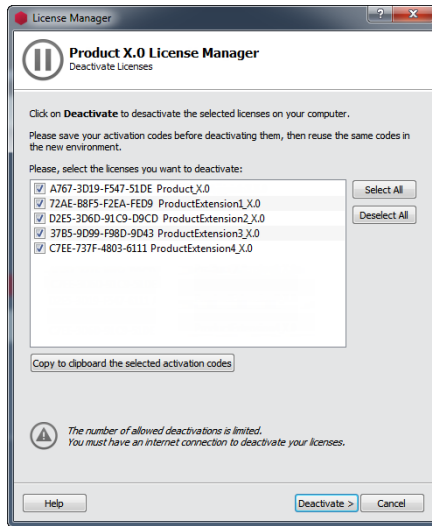

Figure 1.5: License Manager - Deactivation Dialog
- When you click on the *Deactivate* button (see Figure 1.5, the selected licenses are returned to the server and can be activated on any other system.